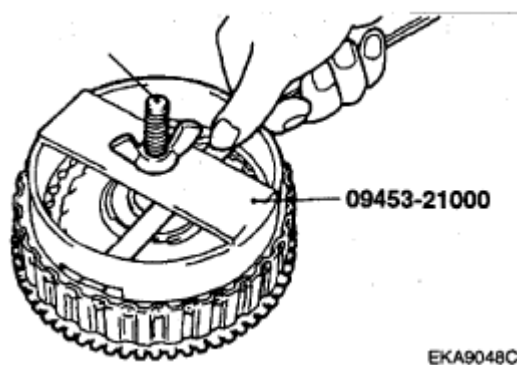

Fig. 174: Checking Clearance Between Snap Ring & Reaction Plate
16. Install special tool 09453-21000 as shown in **Fig. 174**, then check the clearance between the snap ring and the reaction plate using a feeler gauge.